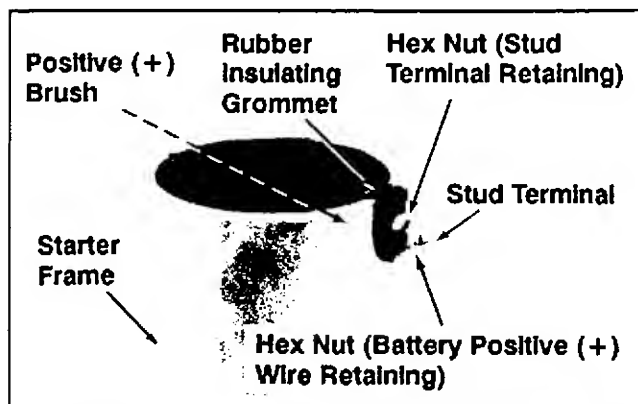

Figure 8-10. Commutator End Cap With Brushes.
3. Remove the hex. nuts from the stud terminal. See Figure 8-10.